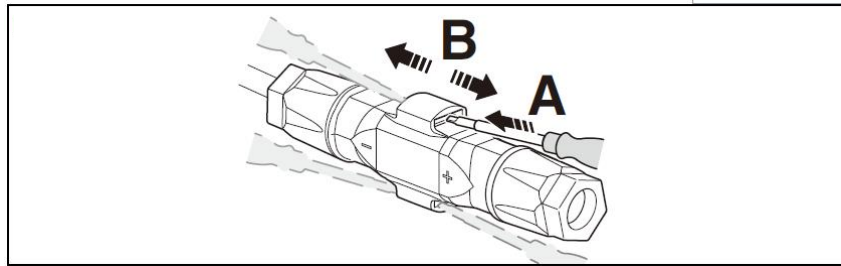

Figure 5-15
(1) Insert the screwdriver into one of the four openings (Figure 5-15, A)
(2) Leave the screwdriver in the opening. Pull the two connectors apart (Figure 5-15, B).